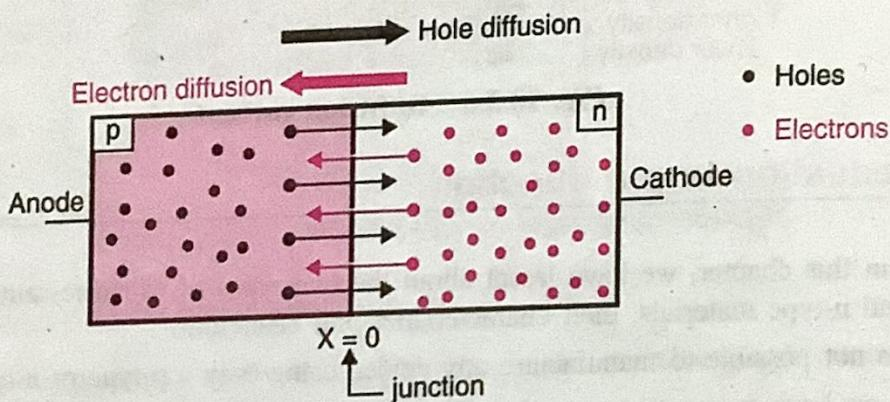

Fig. 10.4.2 : Process of diffusion
- Due to this a concentration gradient is created across the junction, and the process of diffusion of the charge carrier, as shown in Fig. 10.4.2.